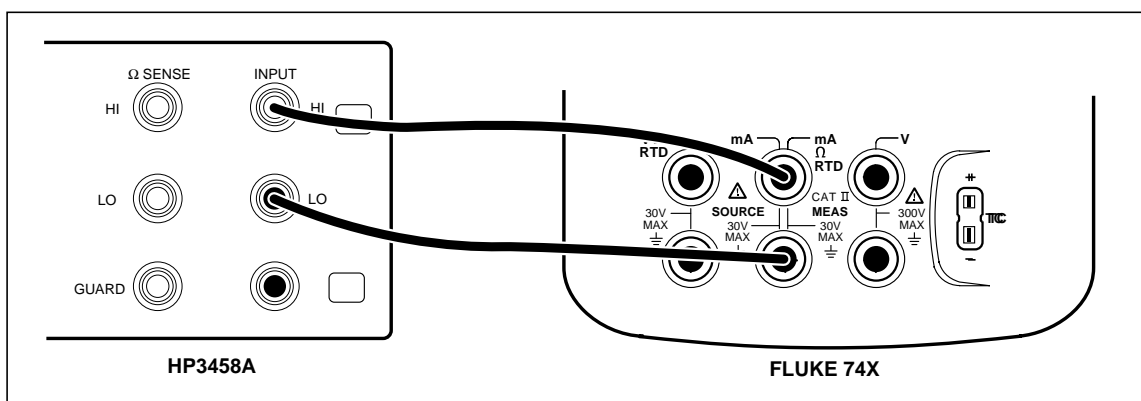

Figure 14. Loop Power Verification Connections
1. Connect the UUT to the HP3458A DMM as shown in Figure 14.